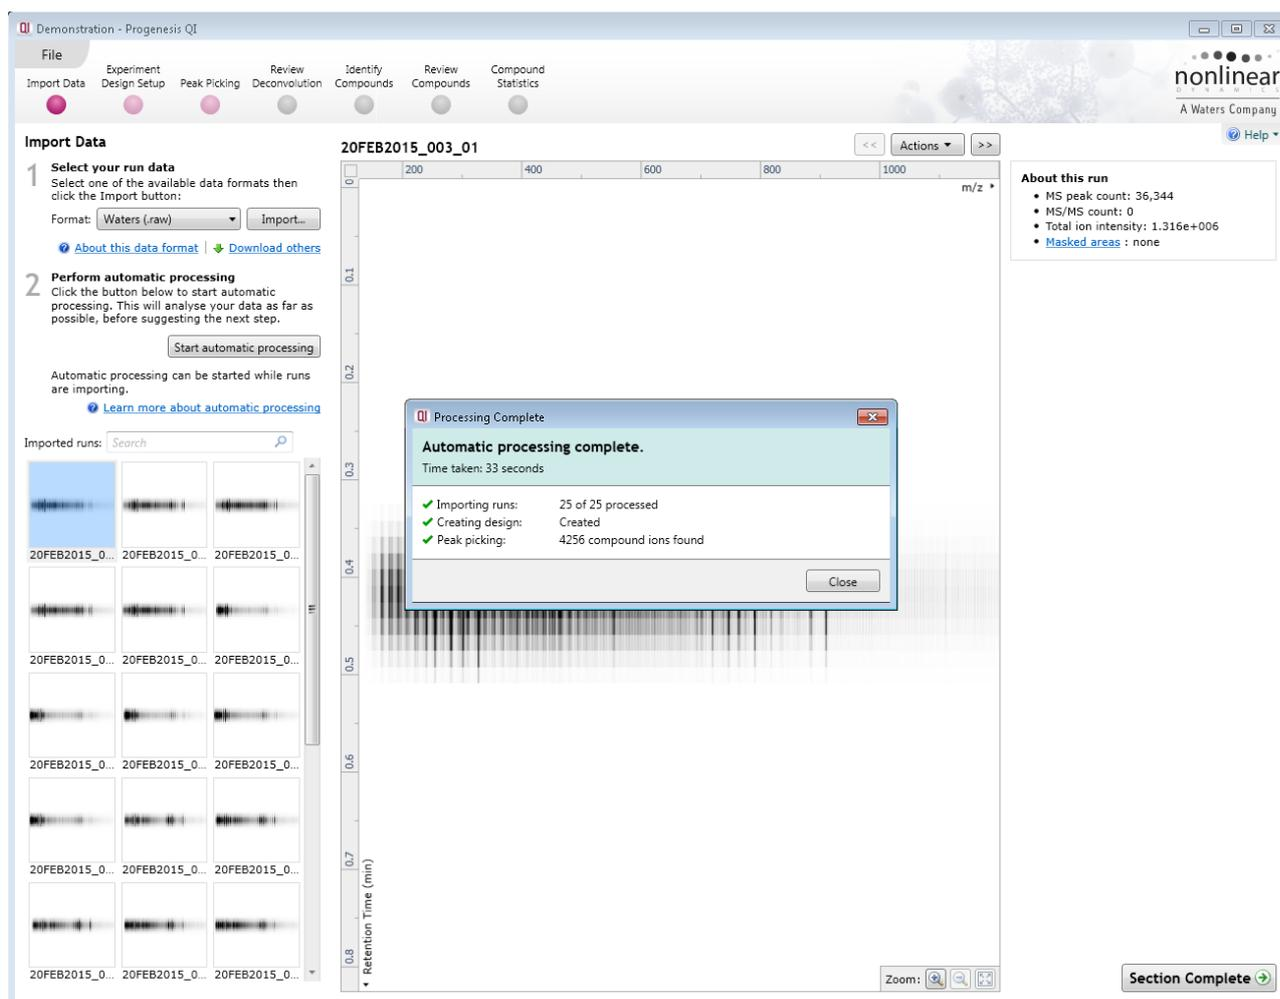

Figure 11: The results of automatic processing are displayed after completion. Closing these allows you to review the results step-by-step.
7. Auto-processing will now occur, and the software will inform you of the results (Figure 11).